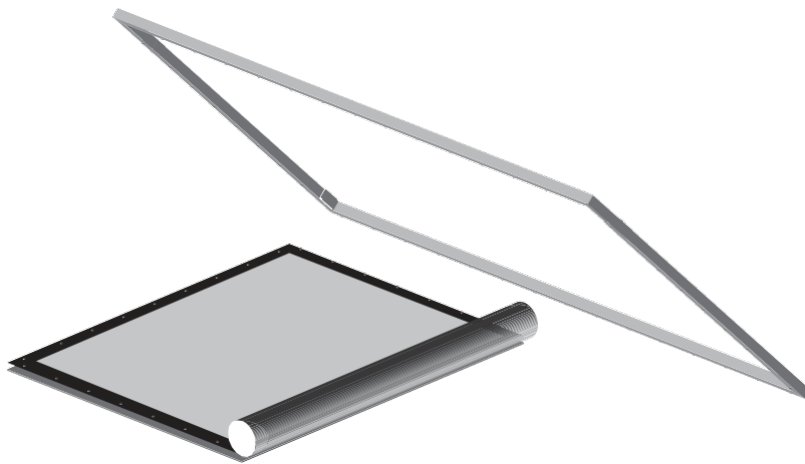

Figure 9: Unrolling the Screen
2. On a clean surface, unroll the screen viewing side up (see Figure 9).
4. Place the frame over the screen, snap side down (see Figure 9).